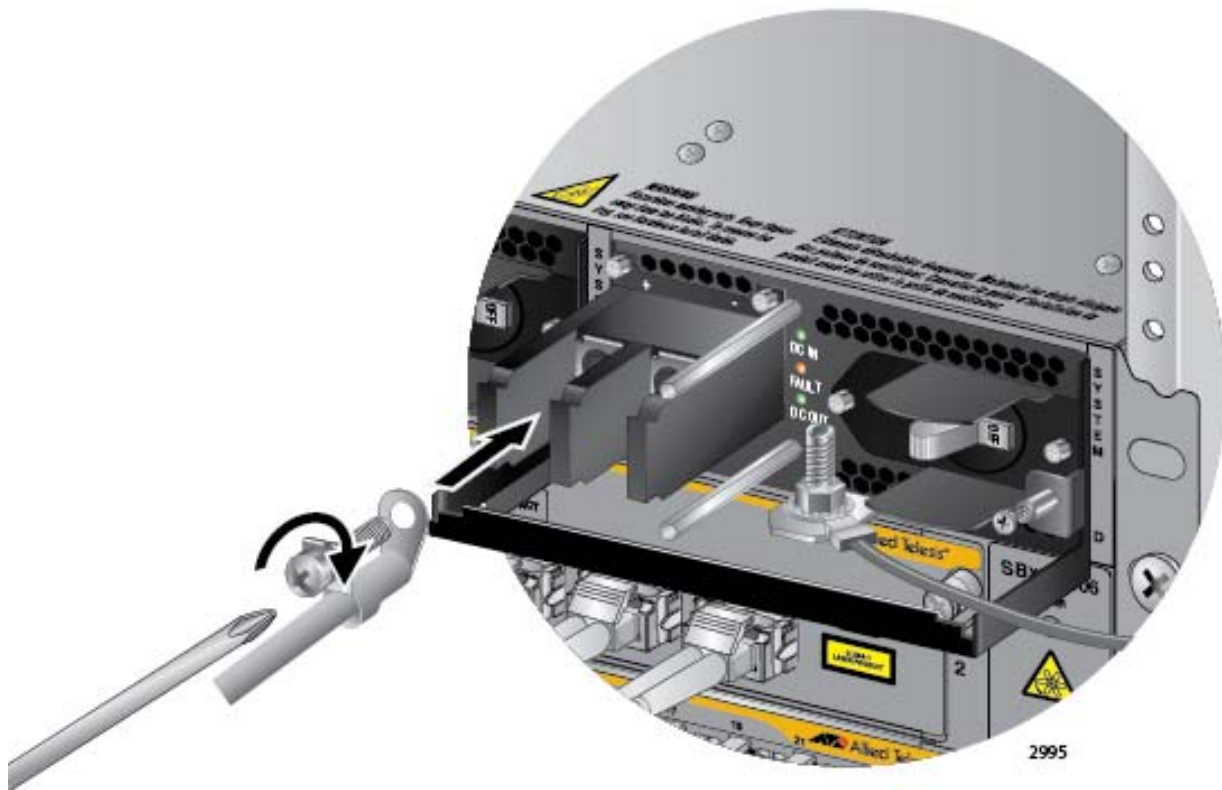

Figure 144. Connecting the Positive (+) Power Wire with a Right Angle Terminal
6. With a #3 Phillips-head screwdriver, connect the positive (+) power lead wire to the positive terminal on the power supply, with one of the terminal screws removed in the previous step. The positive terminal is on the left. Refer to Figure 144 on page 216.